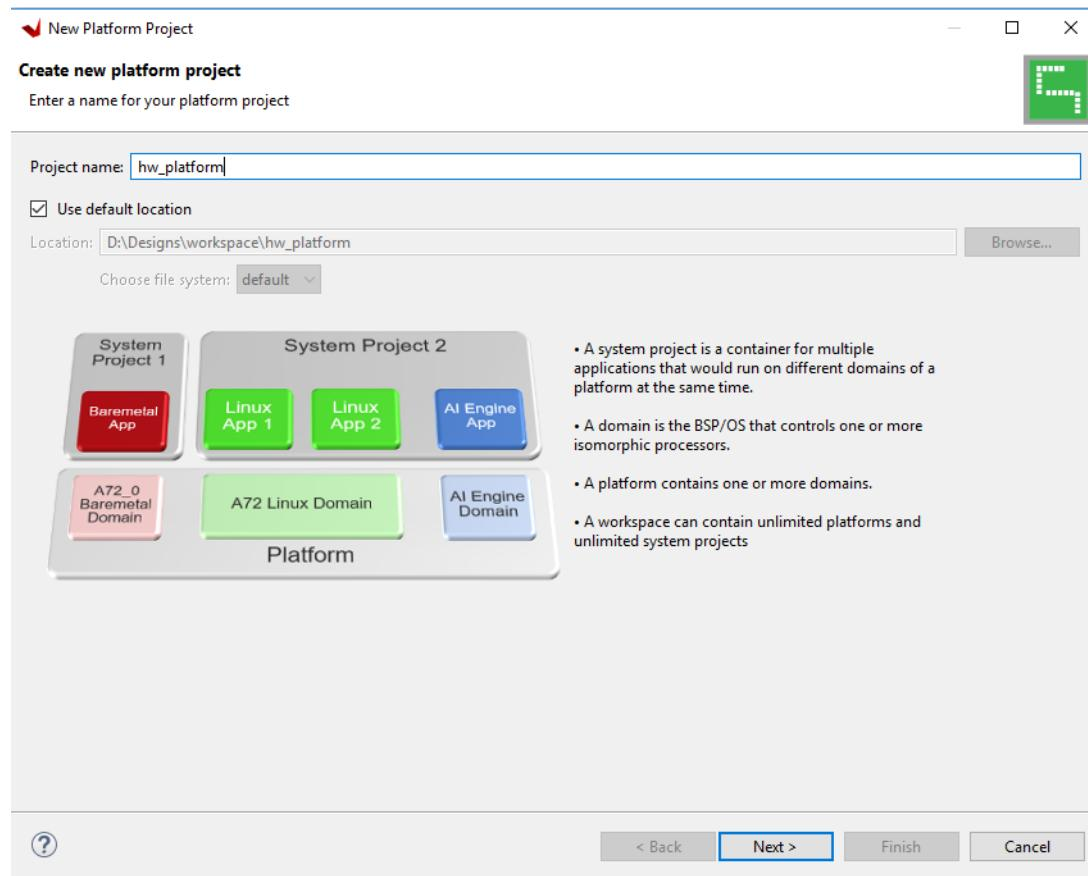

Figure 2: New Platform Window in Vitis
5. Enter the project name as hw_platform, when the New Platform Project dialog box opens as shown in Figure 2. Click **Next**.